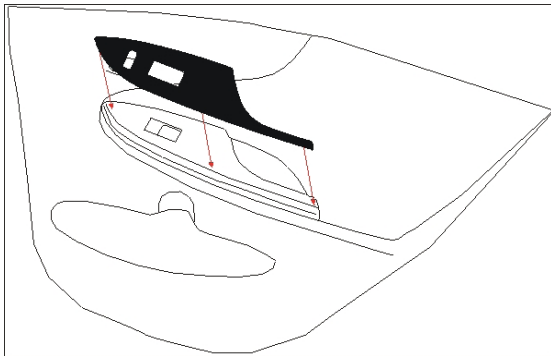

Fig. 10-1
- (b) Align part uniformly to the outer and inner edge of the vehicles factory door plate. (Fig. 10-1)